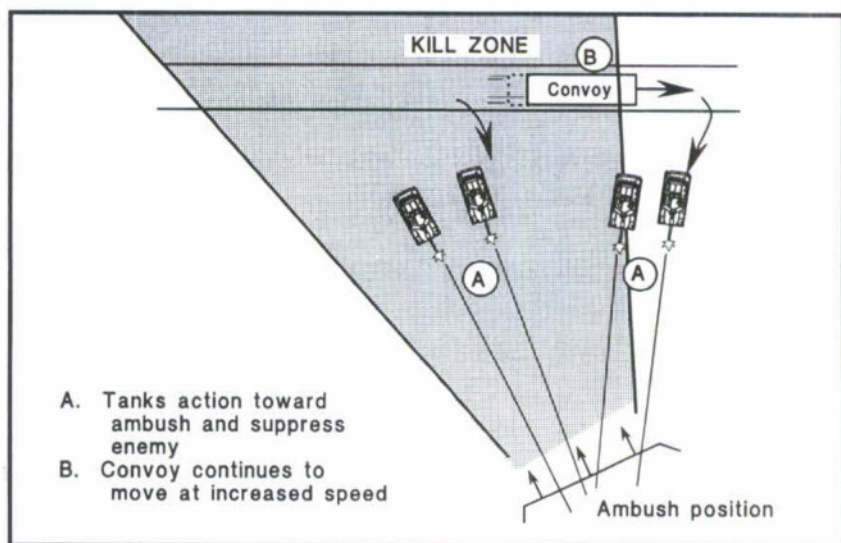

Figure 5-8A. Convoy escort actions toward ambush.
In almost all situations, the platoon will take several specific, instantaneous actions when it must react to an ambush. These steps, illustrated in Figures 5-8A and 5-8B, include the following:
- As soon as they acquire an enemy force, the escort vehicles action toward the enemy (Figure 5-8A). They seek covered positions between the convoy and the enemy and suppress the enemy with the highest possible volume of fire permitted by the ROE. Contact reports are submitted to higher headquarters as quickly as possible.
- The convoy commander retains control of the convoy vehicles and continues to move them along the route at the highest possible speed (Figure 5-8A).